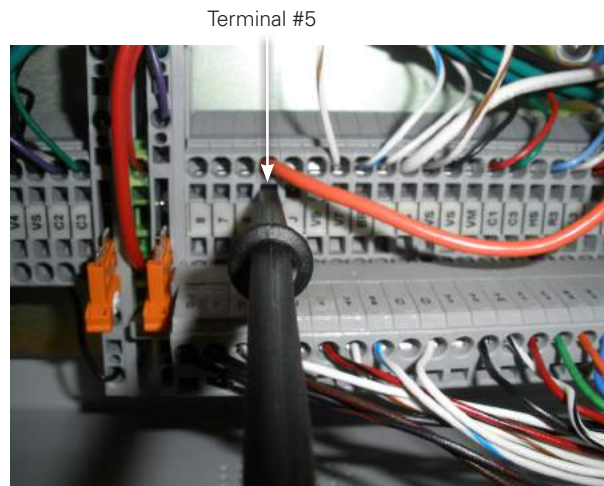

Figure 23. Relocate the orange wire to terminal 5.
7. Reconnect the orange lead to terminal 5 using the insertion tool as shown in Figure 23. To insert a wire into a terminal, press the tool into the square hole and press in firmly while inserting the wire in the round hole.